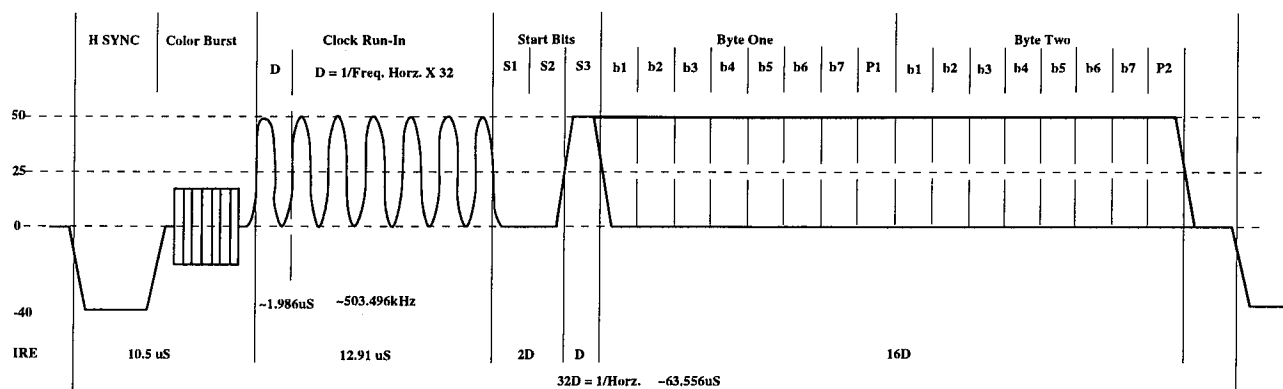

Figure 4-9, Line 21 Captioning
Figure 4-9 is a representation of the horizontal scan line 21 in an NTSC video signal. Captioning data (D) is defined as having a period that is one thirty-second of the horizontal scan rate. If the scan rate is approximately 15734.26Hz then $D = 1/15734.26 \times 32$, $D \approx 503.4965\text{kHz}$ or a period of $\sim 1.986\mu\text{S}$. The transmission consists of a Run-in clock, 3 start bits and 2 bytes of data. A byte of data is made up of 7 bits plus one parity bit. The midpoint of the clock (half amplitude or 25 IRE) should be the same as the midpoint for the start bits and data bits.